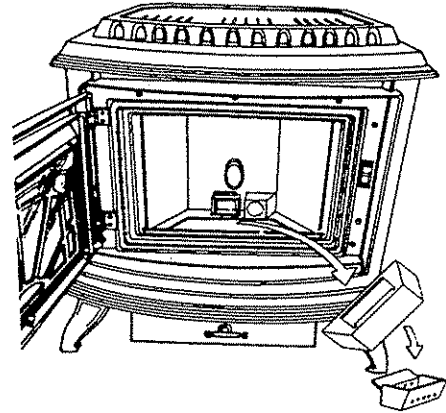
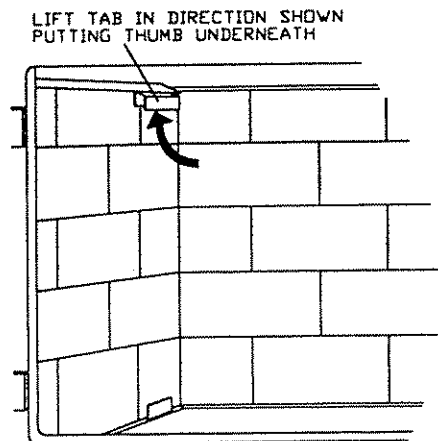

Fig.40
Fig. 41
2. Remove the burn pot and grate (item no. 6) then the grate (item no. 7) (See Fig. 40)
3. Remove the front air baffle (item 26) located inside the stove front below the window glass.
4. Remove all the combustion chamber liners (item no's 18, 19, 20) by pushing up on the tung located on the top of each side baffle starting with the left hand side, then the right and finally the back panel. (See Fig. 41, 42, 43).